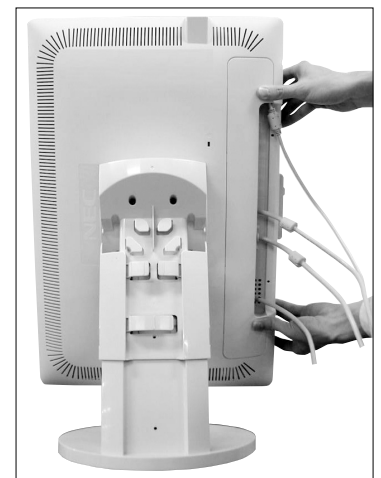

Figure C.5
7. Place the connector cover onto the back cabinet (**Figure C.5**).